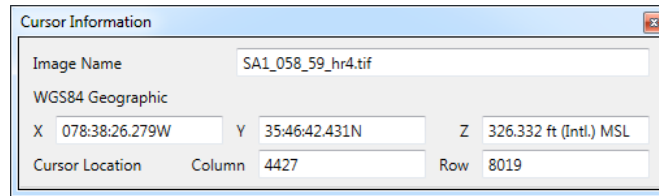

Figure 20. Cursor Information dialog showing both full and chipped image pixel locations.
**[Cursor Information]** in the *Image* group on the *Home* tab launches a dialog (Figure 20) showing the image (pixel) coordinates of the cursor, in addition to its projected map coordinates. The projection coordinates are relayed based on the projection and display string formats specified in the Geolocation Formats settings. Images that are chipped from larger sources have two sets of cursor location info; one for the chipped cursor location, and one for where that pixel would lie in the full image.